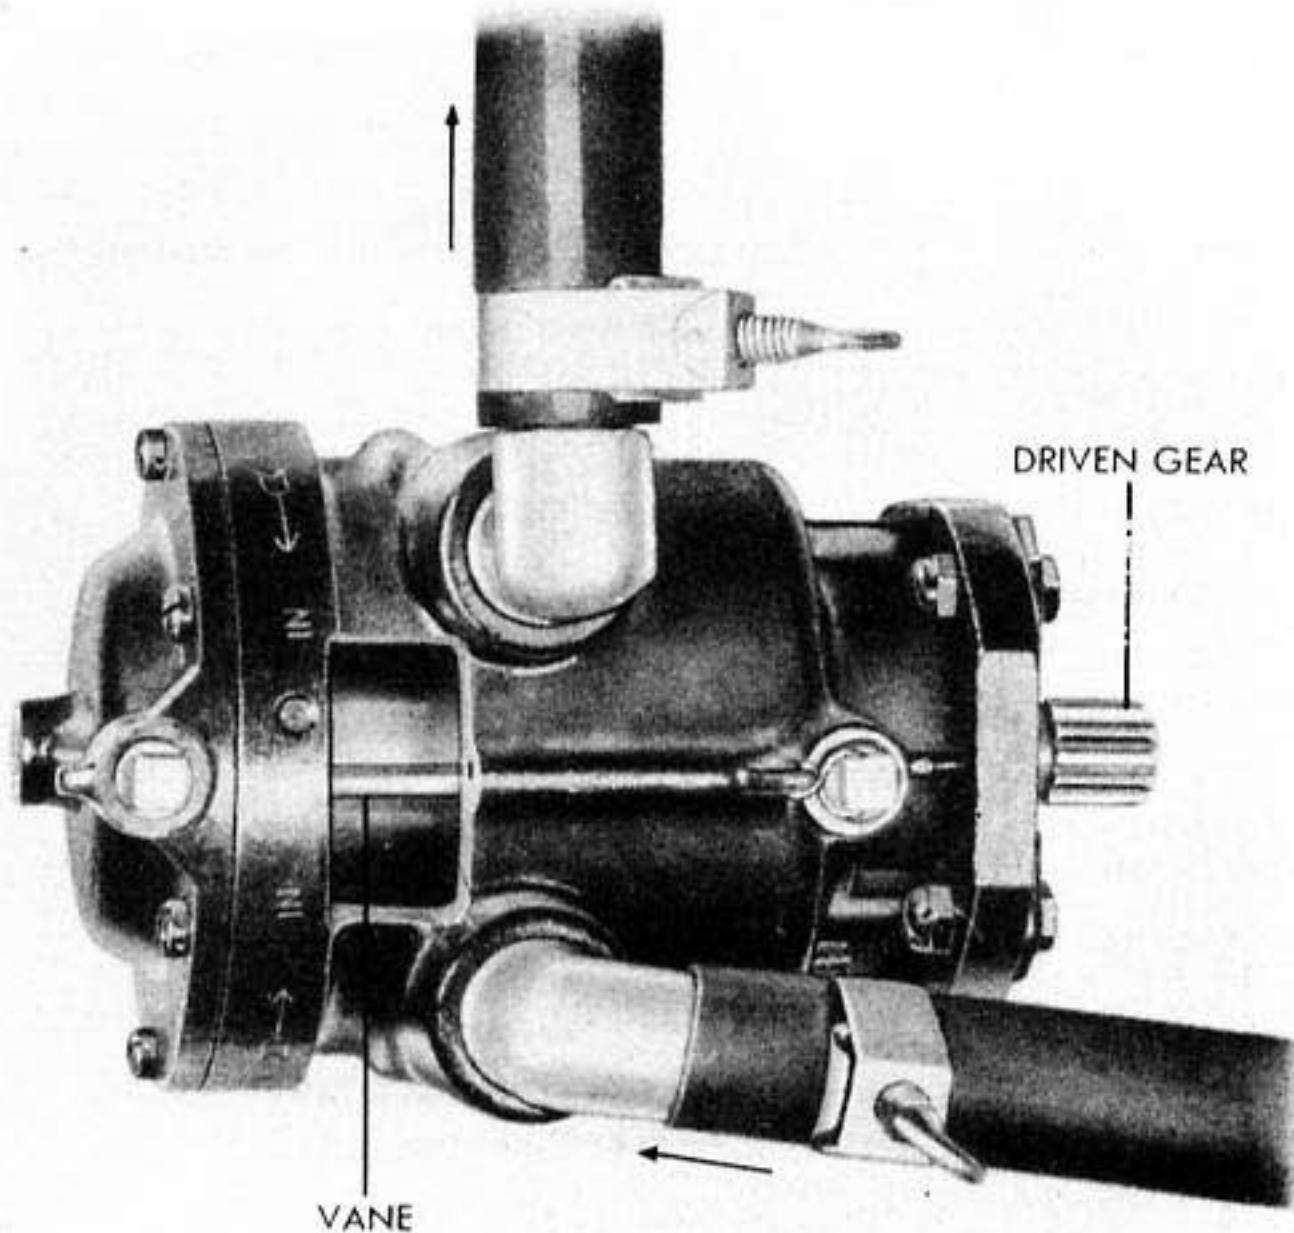

Figure 162 - VACUUM PUMP - CUTAWAY VIEW
(6) VACUUM PUMP. (See figure 162.) - To supply vacuum for the operation of gyroscopically actuated instruments, a vane-type vacuum pump operates in the oil system. The vacuum pump takes its small oil requirements from the engine accessory section on which it is mounted by four stud bolts. The pump is gear driven as an engine accessory. Incorporated in the vacuum line to the instruments are four valves. A suction relief valve is located at the engine accessory section forward of the fire wall on the inside of the nacelle. It controls flow in one direction in the event of backfire of the engine. A master relief valve
(4) REMOVAL OF VACUUM PUMP. (See figure 162.)